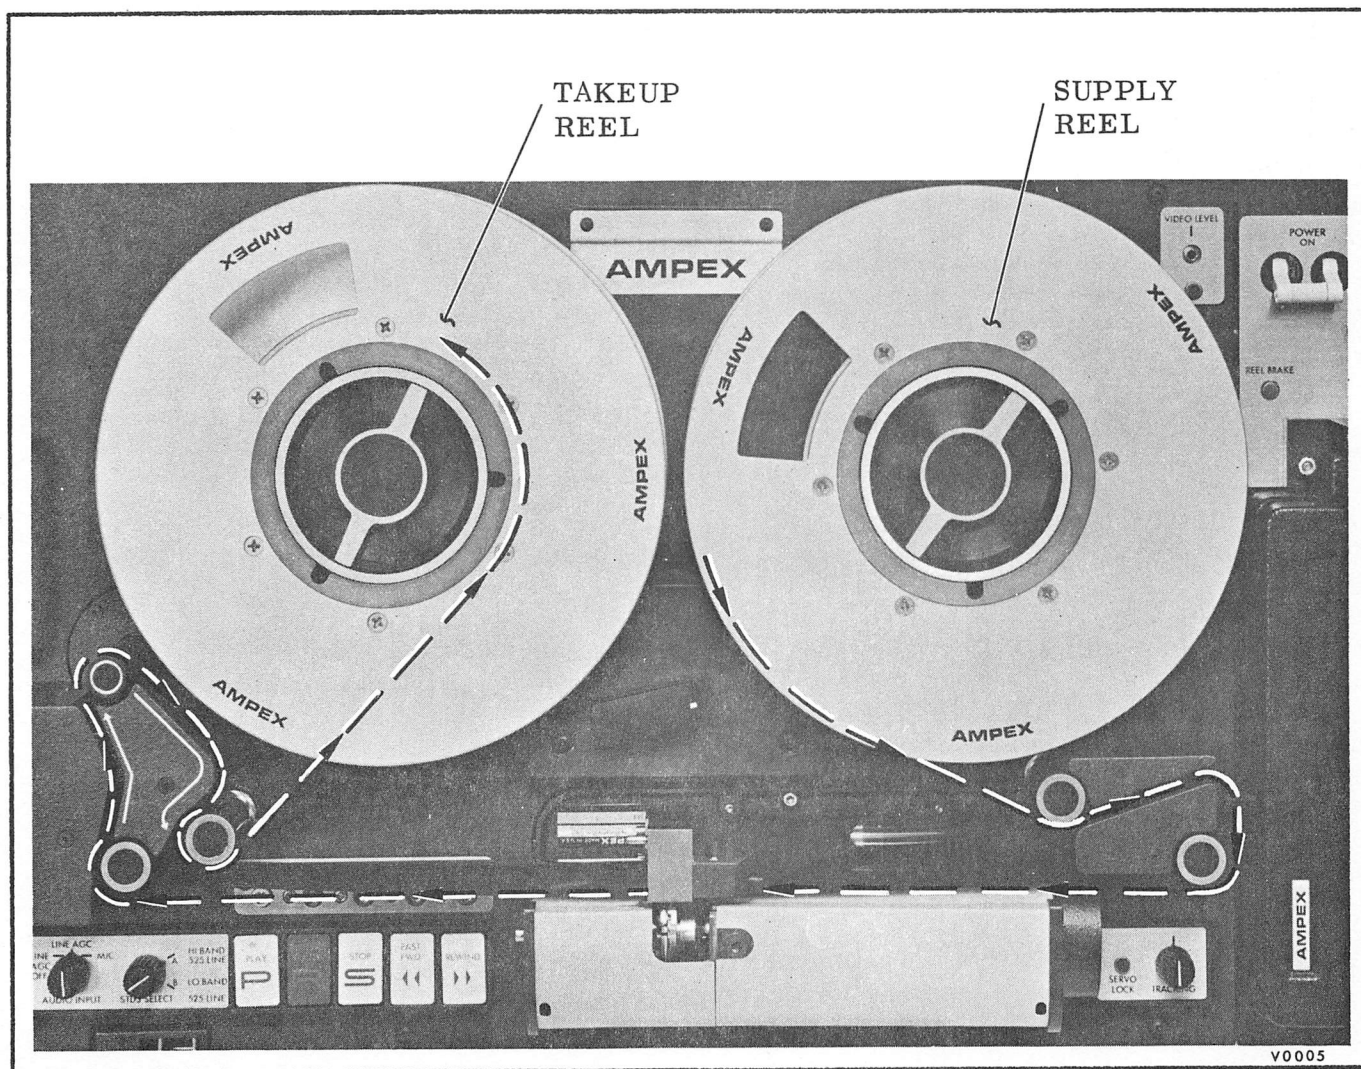

Figure 3-3. Tape Threading Path in VR-3000 VTR
4. Pull approximately two feet of tape from the supply reel and thread the tape through the tape transport as shown in Figure 3-3.